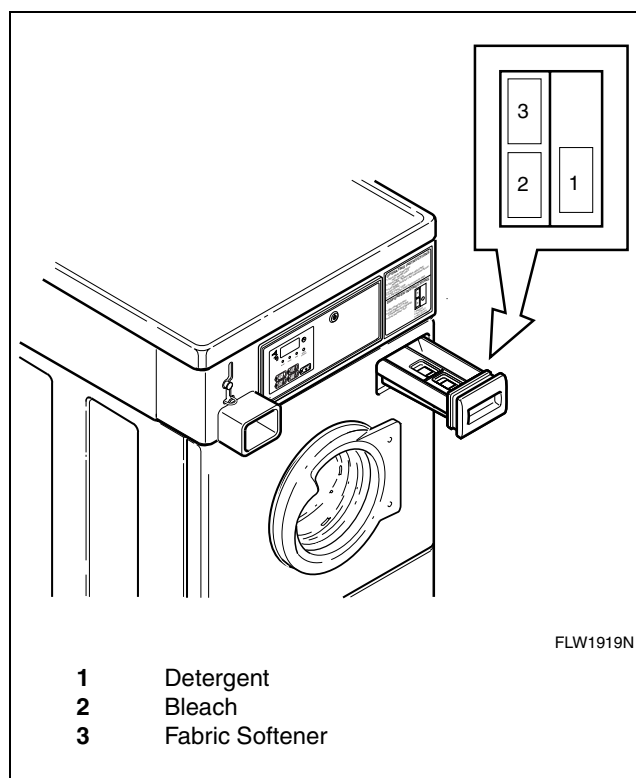

Figure 26
Open dispenser drawer. Measure and add low sudsing detergent (1), bleach (2) and fabric softener (3) to the dispenser drawer (refer to *Figure 26*). Close dispenser drawer.